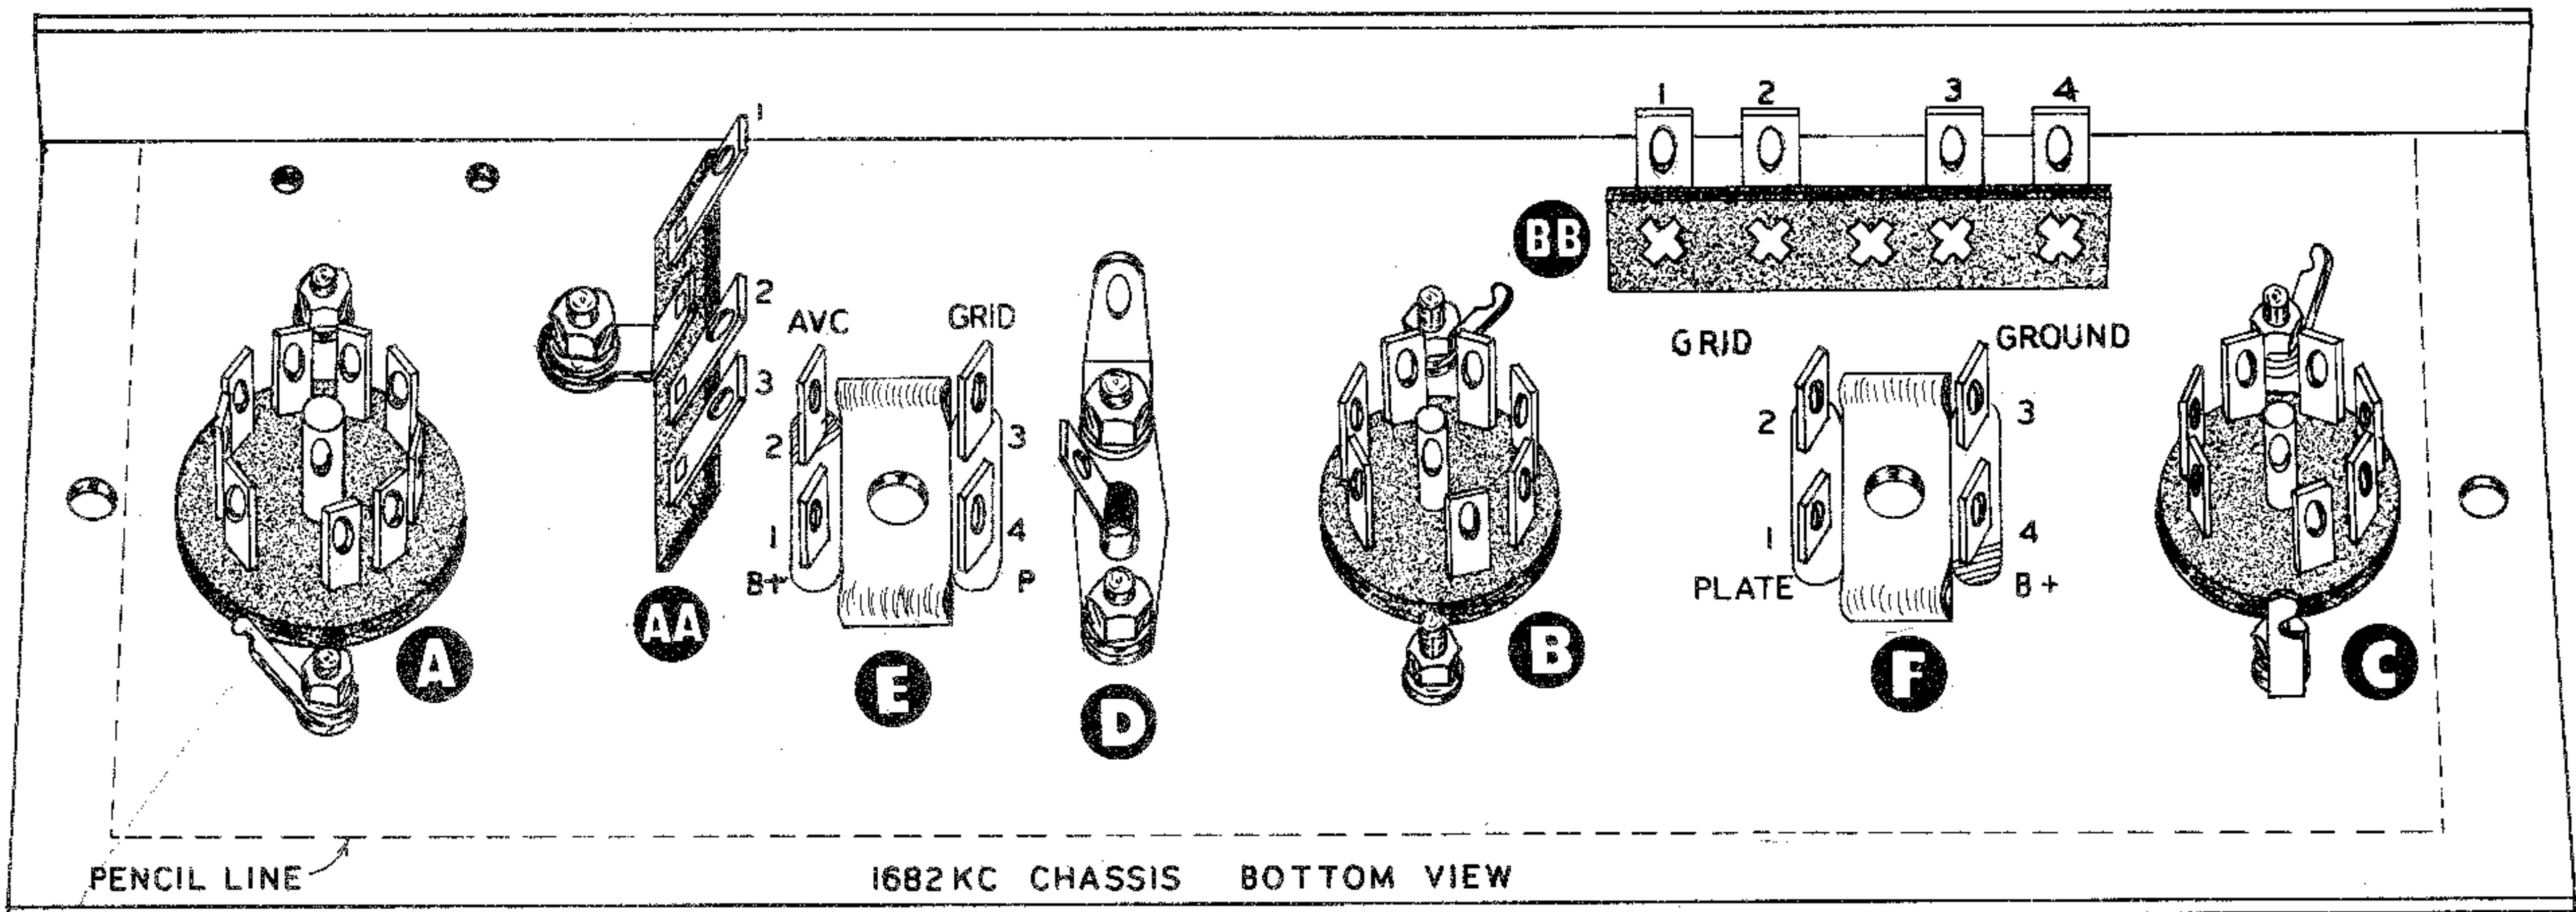

Figure 1
- ( ) Select the 1682 KC chassis by comparison with Figure 1 and temporarily mount it with #6 sheet metal screws on the main chassis frame at the position shown on top plate drawing on Page 4. Now from the underside draw pencil lines around the edges of the main chassis. The lines on the 1682 KC chassis will now denote the clearance that must be maintained. In other words, no wires or components can lay over these lines or they will be pinched when the chassis is remounted. In the wiring instructions, some capacitors will overlap the lines; these will be bent out of the way later.
- ( ) Remove the 1682 KC chassis from the main chassis. NOTE: Refer to Figure 1 while completing the following steps.
- ( ) Clip off the ground terminal and 1/8" of the center terminal of a phono connector, (see Figure 1) and mount it at hole D using 6-32 x 1/4" screws, nuts and one #6 lockwasher. Include a large #6 solder lug on the rear screw; no lockwasher is necessary with this type of solder lug.
- ( ) Bend the center terminal toward the 9 pin socket (A).
- ( ) Mount a 3 lug terminal strip AA (see Figure 1 for type and position) adjacent to the 9 pin socket, using 6-32 x 1/4" screw, through the chassis from the top, through a #6 lockwasher and the terminal strip mounting foot, through another #6 lockwasher and nut. NOTE: This system of mounting will apply to all terminal strips hereafter.
- ( ) Mount a 4 lug terminal strip BB between the two 7 pin sockets and behind hole F. See Figure 1 for type of terminal strip and mounting position. NOTE: There are two small IF transformers stamped 52-16 and 52-17. Transformer 52-16 is mounted at hole E and 52-17 at hole F. It is important that these not be interchanged or it will be impossible to align the IF strip.